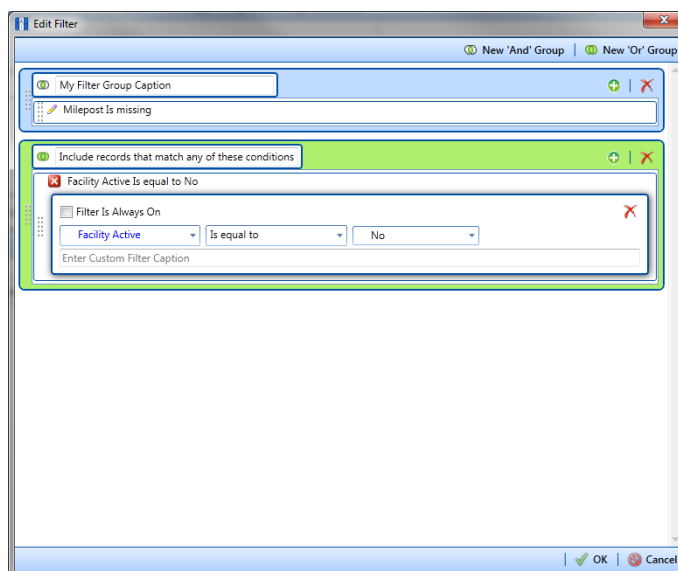

Figure 10-33. New 'Or' Filter Group
- a Click  **New 'Or' Group** to open a filter properties group box (Figure 10-33).